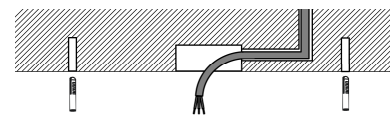

Fig.3 (SECTION)
3. Fix the mounting Bracket by four M4x50mm screws. (Fig.3)